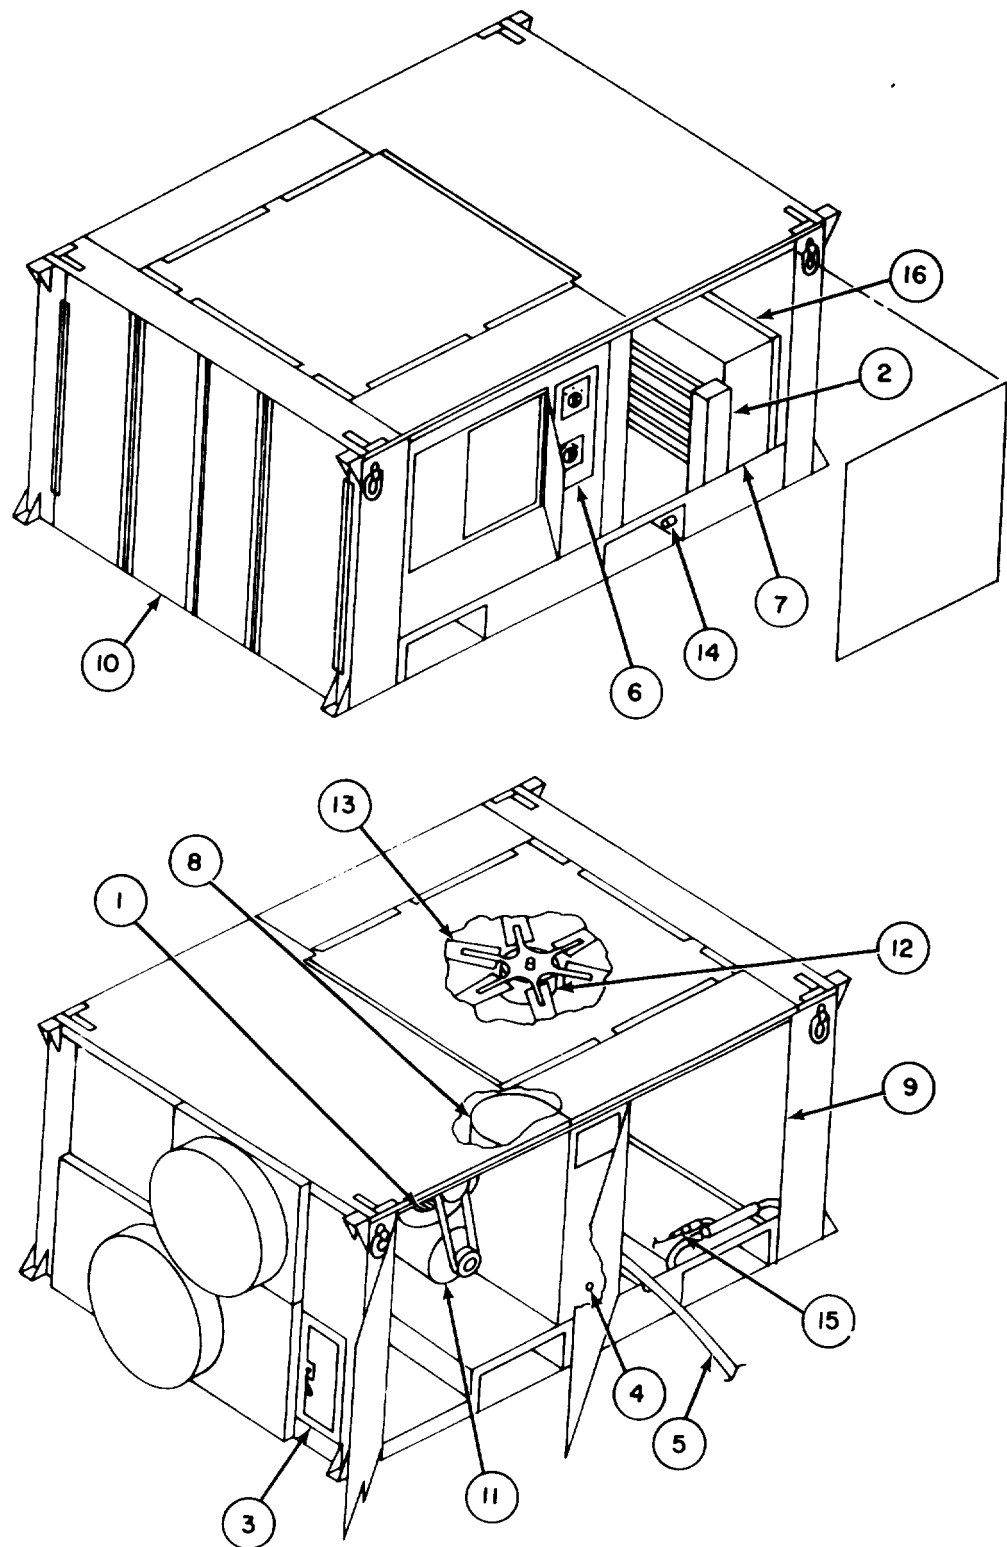
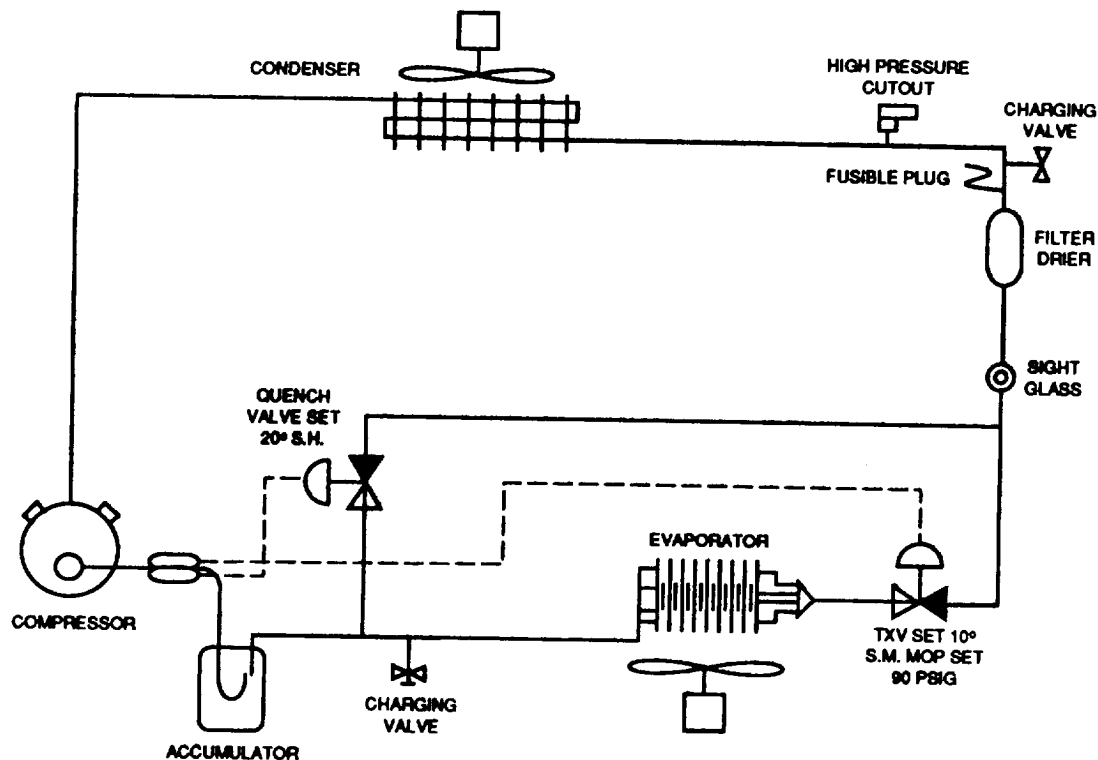

Figure 1-2. Location of Major Components
Figure 1-4. Refrigeration System Schematic Diagram
e. **HUMIDITY.** Heat is extracted from the air flowing across the evaporator coil. Cooling the air extracts excess moisture, lowering the relative humidity of the air delivered to the conditioned space. The extracted moisture collects on the evaporator coil as drops of water, drips down into a drain pan and empties out of the air conditioner through the drain line (figure 1-2).
f. REFRIGERATION SYSTEM. Figure 1-4 is a schematic flow diagram of the refrigeration system in the air Conditioner. Operation is as follows
(1) COMPRESSOR. Low-pressure, low temperature refrigerant vapor is drawn into the hermetically-sealed motor-compressor unit through the low pressure line from the accumulator. Refrigerant enters the compressor unit into the shell near the top, is circulated around and through the motor, and enters the compressor. From the compressor, the refrigerant under high pressure is delivered to the condenser. During compressor motor rotation, grooves in the crankshaft carry oil from the crankcase to bearing surfaces.
(2) CONDENSER. From the compressor, refrigerant gas enters the condenser at a pressure sufficient to raise its condensation temperature above that of the ambient air. Thus, as the airflow across the condenser coil extracts heat from it the refrigerant condenses to a liquid and settles to the bottom level of the condenser coil.
(3) LIQUID LINE COMPONENTS. From the condenser, liquid refrigerant passes through a filter-drier and a sight glass. A drying chemical in the filter-drier absorbs moisture, acids, and other liquid contaminants, and a filter captures and retains solid contaminants. The sight glass provides visible indication of the fluid state of the refrigerant. Refrigerant passing through the sight glass should be in the form of a clear liquid. Bubbles in the sight glass are an indication of a shortage of refrigerant in the system. Also in the liquid line are: a charging valve for adding liquid refrigerant a cutout that switches off the electrical circuit when the refrigerant pressure becomes excessive and a plug containing a fusible metal that melts when the liquid refrigerant becomes overheated, allowing refrigerant to escape.
g. **HEATING SYSTEM.** The heating element grid is located in the evaporator compartment (figure 1-2). When the heating system is operating, return air, after passing through the evaporator coil, is heated and delivered to the discharge duct by the evaporator blower. Two relays on the control board energize three heating rods each.